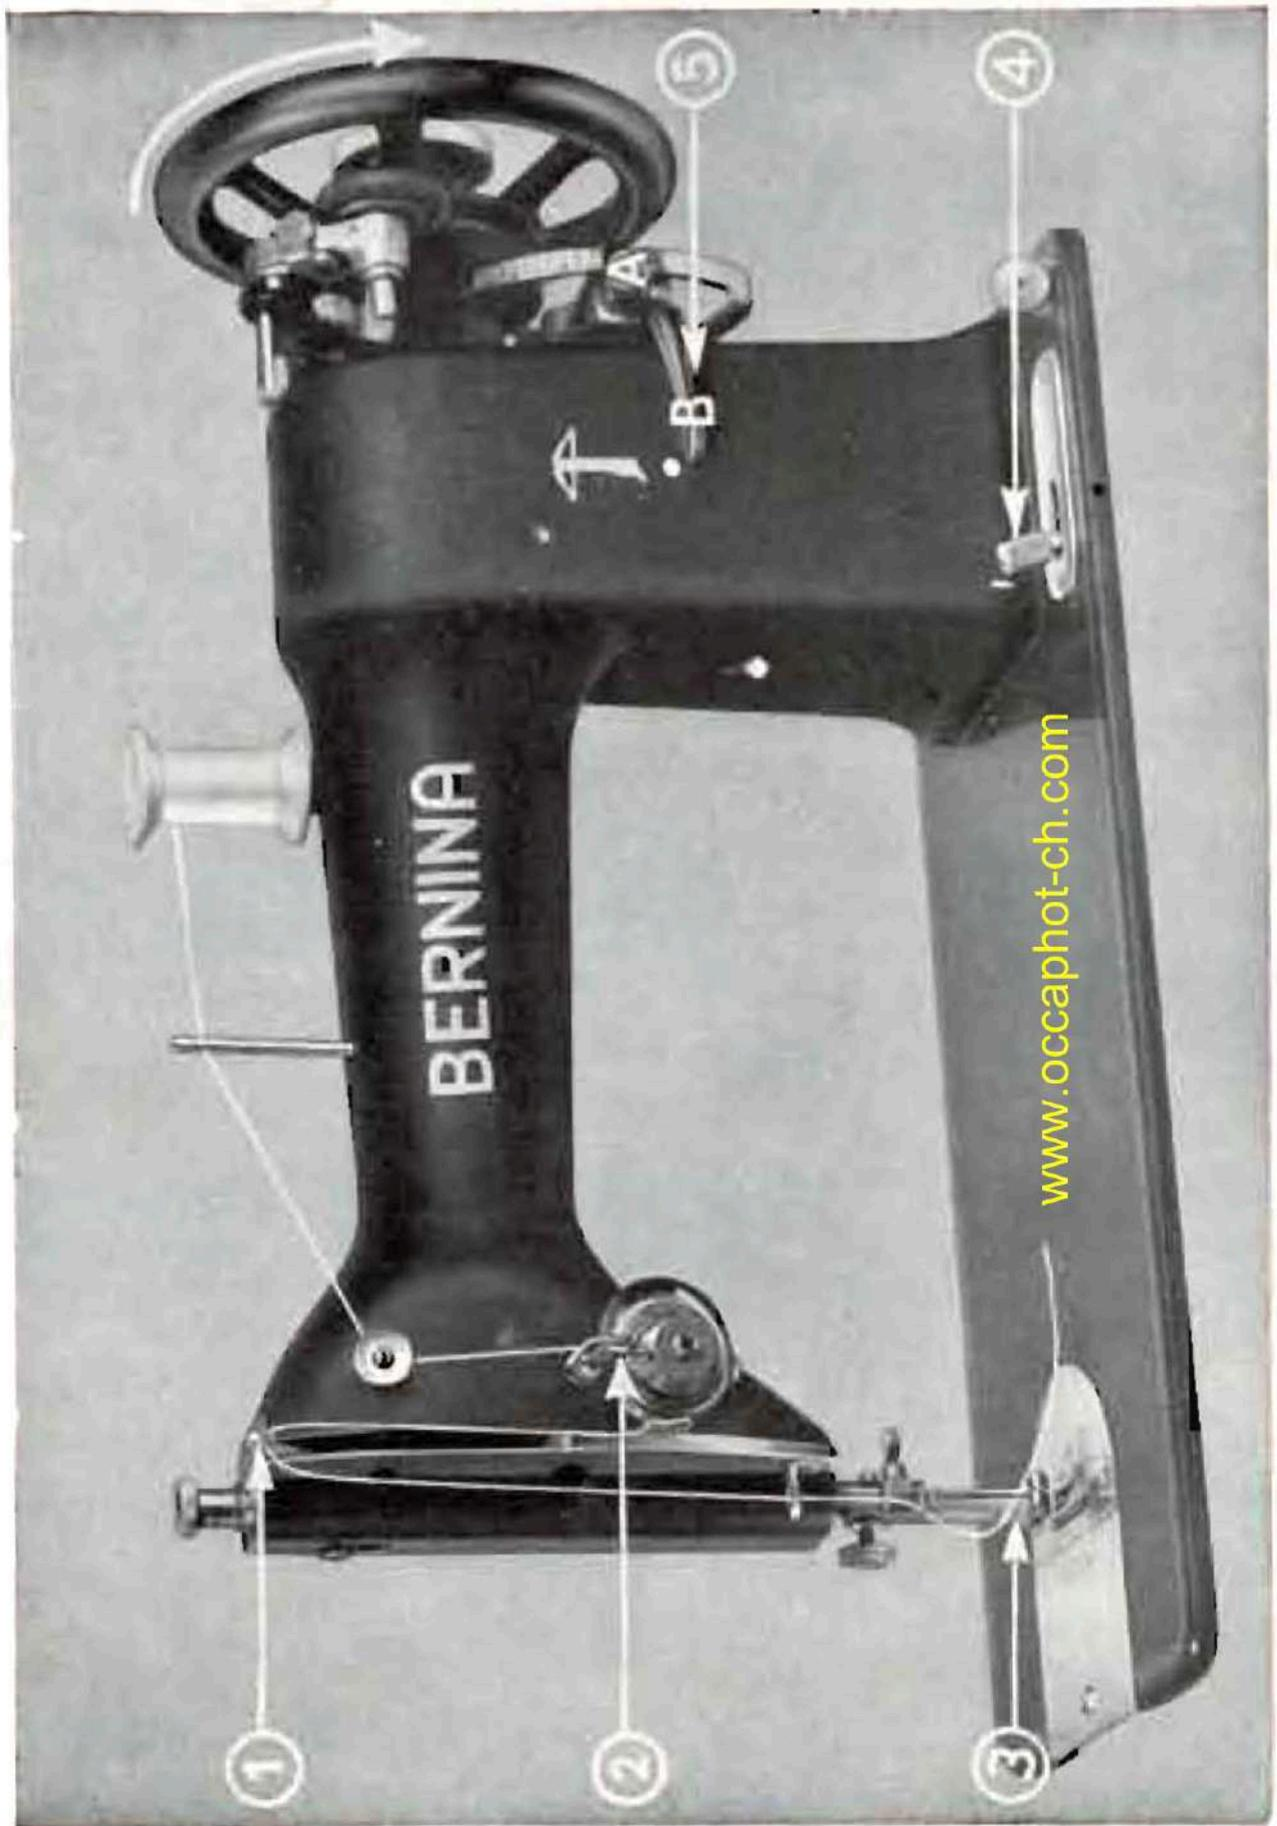

Fig. 10
For sewing purposes the machine should be set as follows (see Fig. 10):
The stitch regulator scale is fitted at the right end of the machine frame and so arranged that the pointer of the stitch regulating lever B (Fig. 10) glides along it. The scale is marked with graduations from 0 to 4 corresponding to the stitch lengths. The further the lever B is moved upwards or downwards from the *zero* mark, the longer is the stitch produced.
4. Set stitch regulating lever B, Fig. 10, at zero so that the feed dog will not be unnecessarily set in motion.